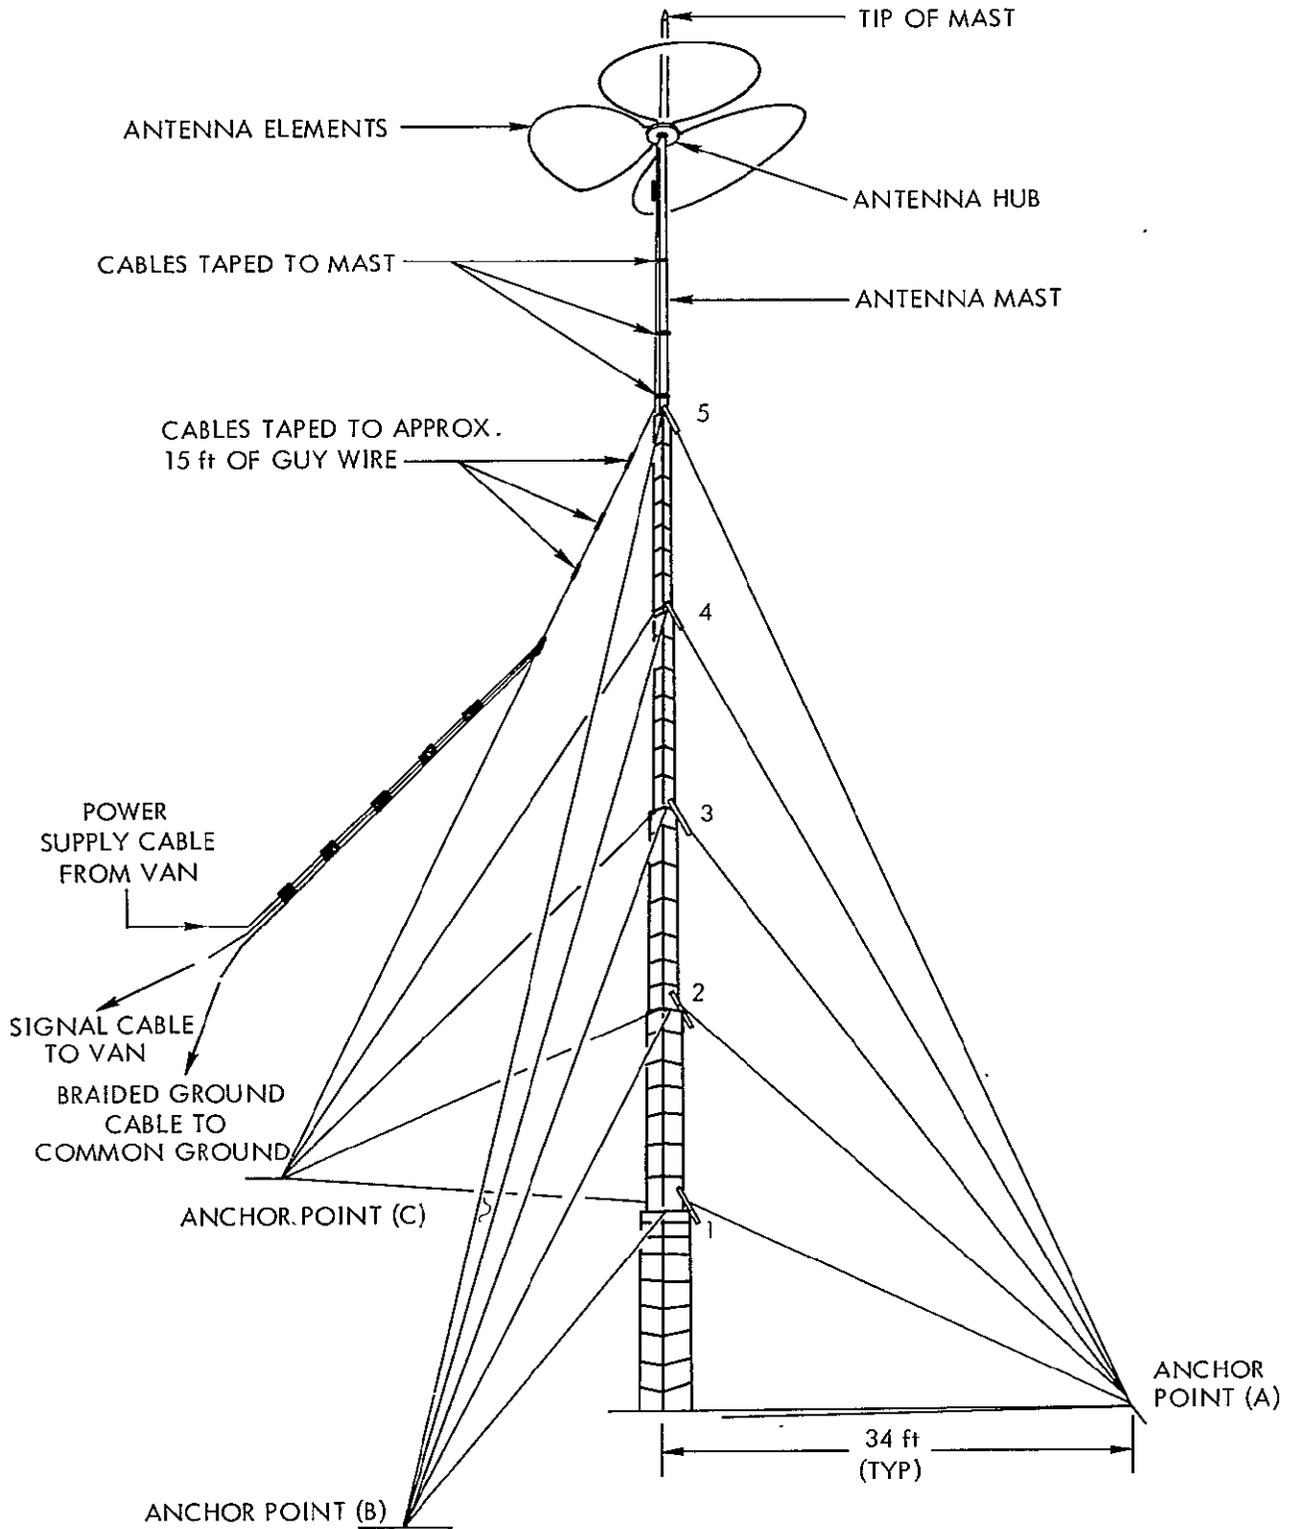

Fig. 5. Antenna tower with mast and five sections in raised positions
- 4) Make cabling and grounding connections at the instrumentation van (Fig. 5).